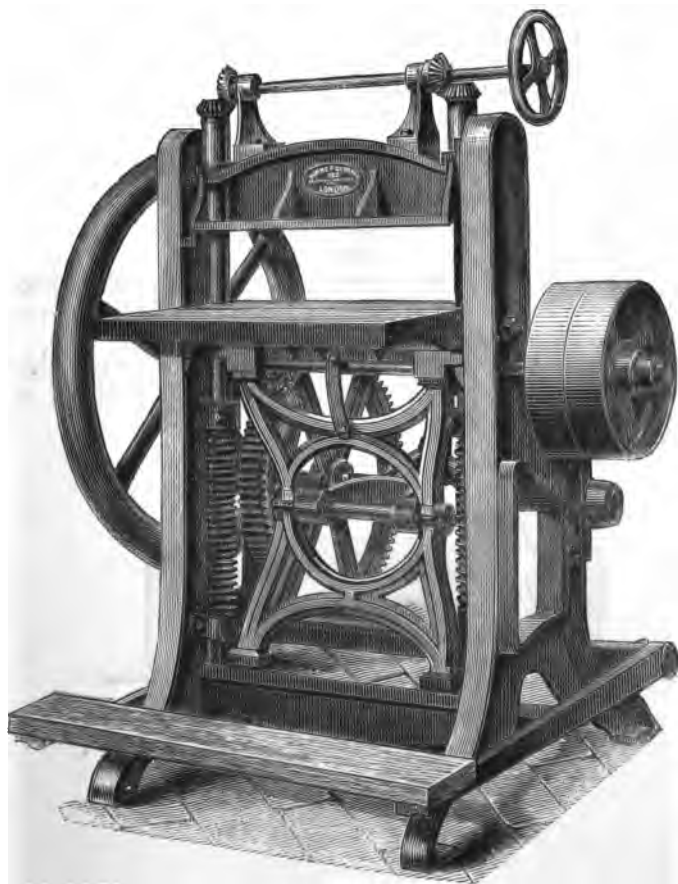

Fig. 68.—LINING CUTTING PRESS.
**Lining Cutting Press.**—Fig. 68. This is almost an